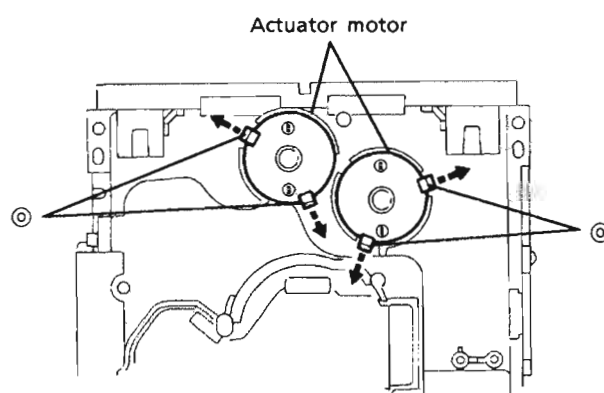

Fig. 46
5. Reverse the chassis ass'y and widen 4 poles ⑦ which secure both actuator motors to its arrows to remove the actuator motors. (See Fig. 46.)